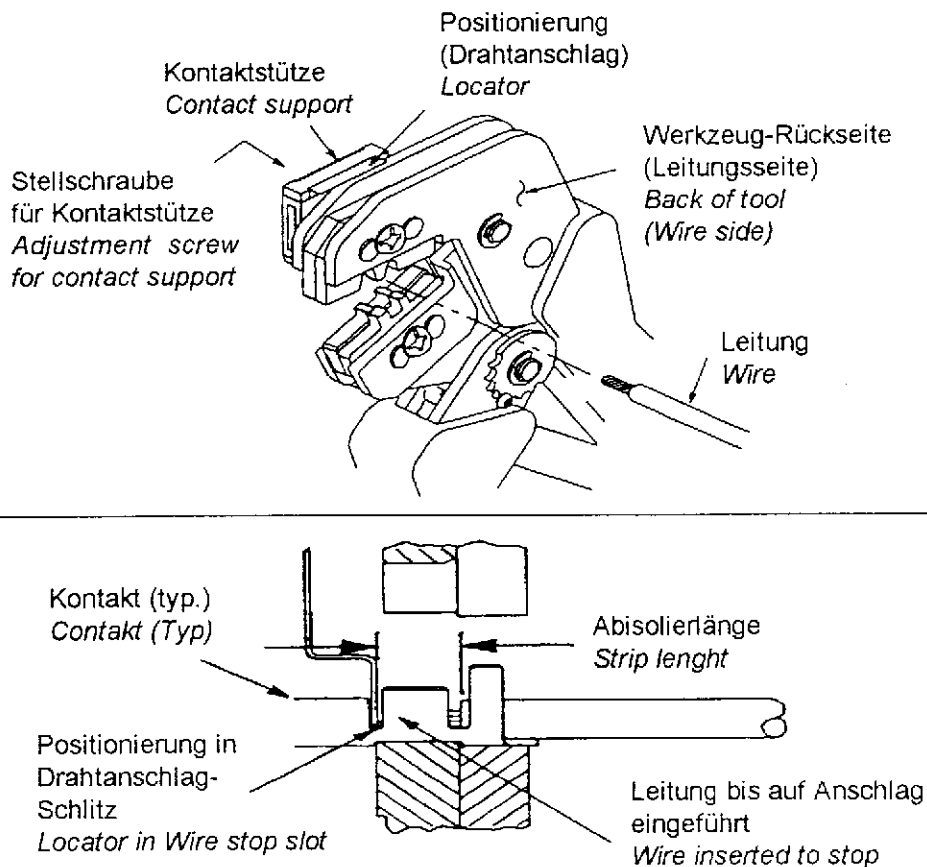

Figure 3
Refer to the table in Figure 1a and select wire of the specified size and insulation diameter. Strip the wire to the length indicated in Figure 1a, taking care not to and identify the appropriate crimp section according to the wire size marking on the tool. Refer to Figure 3 and proceed as follows:
3. Position the contact so that the mating end of the contact is on the locator side of the tool, and so that the open "U" of the wire and insulation barrels face the top of the tool. Place the contact up into the nest so that the movable locator drops into the slot in the contact. Refer to Figure 3. Butt the front end of the wire barrel against the movable locator.
5. *Insert stripped wire into contact insulation and wire barrel until it is butted against the wire stop, as shown in Figure 3.*
*The crimped contact may stick in the crimping area, but the contact can be easily removed by pushing downward on the top of the locator (see Figure 3).*